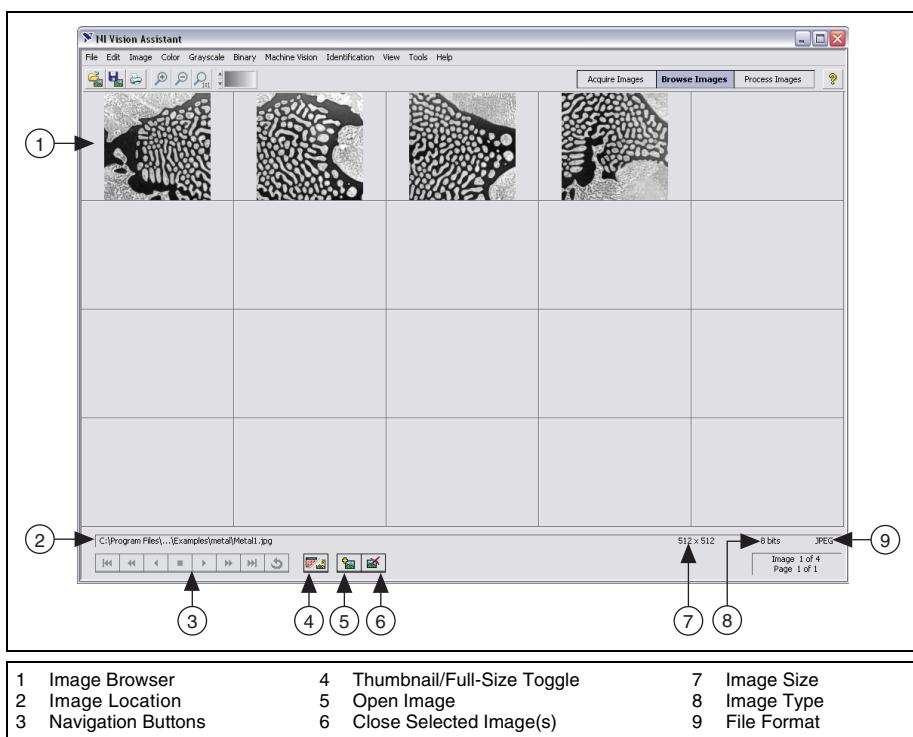

Figure 2-1. Image Browser
- **Image Browser**—Contains all of the images currently loaded in Vision Assistant. You can select an image to process by double-clicking it in the Image Browser. Refer to Figure 2-1, *Image Browser*, to view images loaded into the Image Browser.
You can view images in either thumbnail view, as shown in Figure 2-1, or in full-size view, which shows a single full-size view of the selected image.